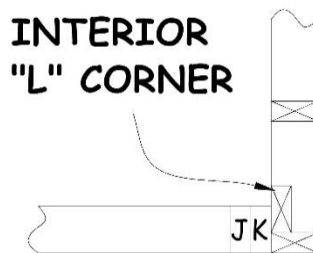

Figure 3-9. Interior L-Corner Configuration.
5. At corners and intersections, pay attention to whether a door will be built at that location. If so, include an “L-Corner” at the end of the room wall and lay out the door plates so that the KJ pair abuts the L-Corner (see Figure 3-9). This allows for easy nailing through the “L” into the King stud.
- c. Where a door will be attached at the end of a bathroom or bedroom wall, mark the end of the wall for a 2x4 L-corner oriented to allow nailing through the L-corner into the King stud of the door. (Similar to the 2x6 L-corners used in the exterior walls). See Figure 3-9.